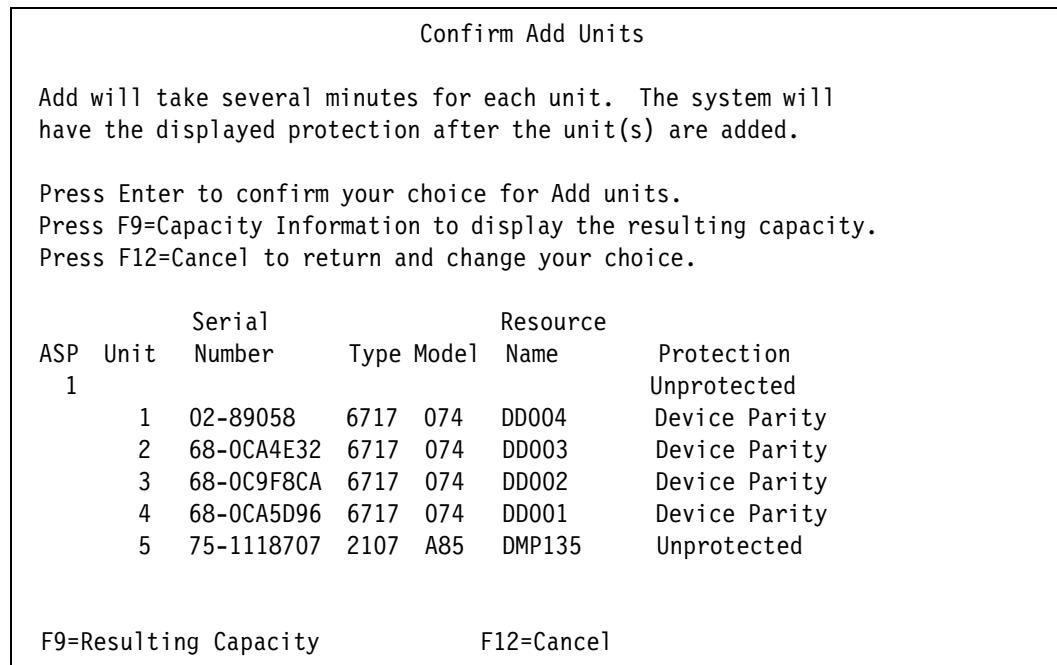

Figure 17-23 Confirm Add Units
5. A confirmation window opens, as shown in Figure 17-23. Check the configuration details, and if correct, press Enter to accept.